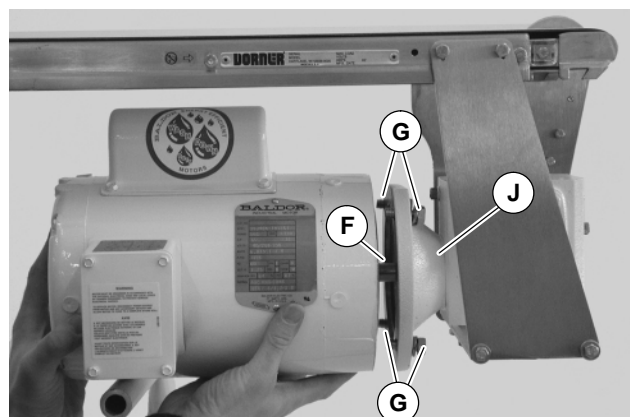

Figure 36
5. With key (F of Figure 36) in keyway, slide new gear and gear reducer (J) together. Install screws and washers (G) and tighten.